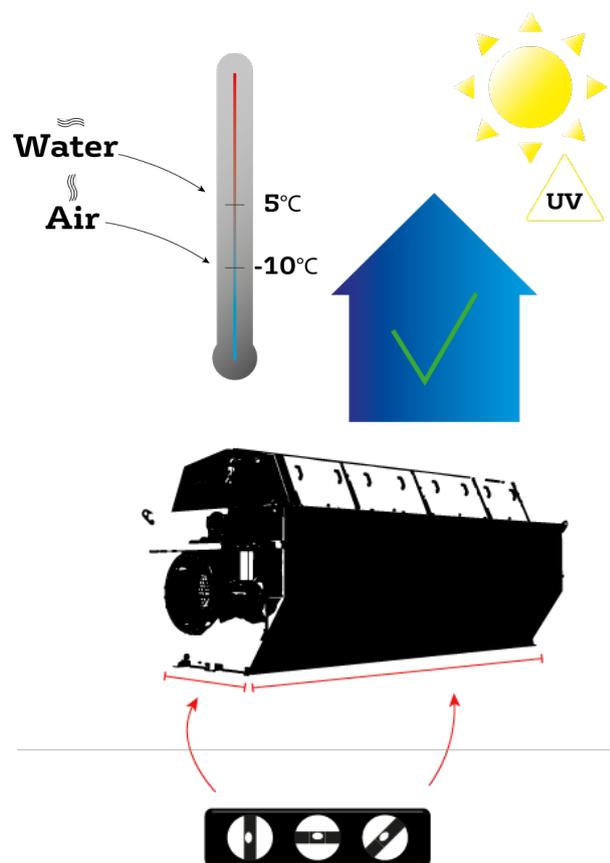

Figure 4.4 Installation av filter
- ▶ The filter must be level in both directions (see Figure 4.4).